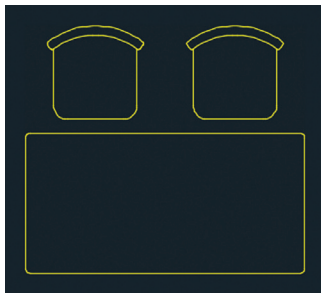

FIGURE 7.11 Copying a block reference
7. Click the Copy tool in the Modify panel, type L (for Last), and press Enter twice. Click an arbitrary point on the drawing canvas, type @2'6<0 (or @80<0 for metric), and press Enter to copy a chair to the right (see Figure 7.11). Press Esc to end the COPY command.